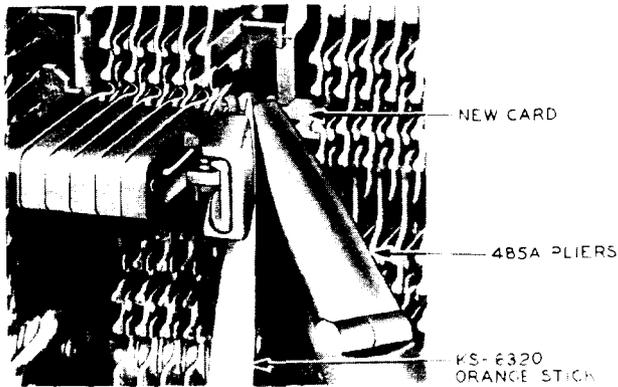
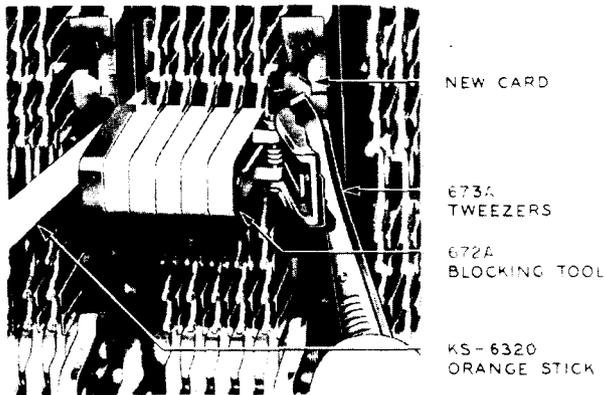

Fig. 11—Inserting New Card in Spring Combination
Fig. 12—Final Positioning Operations of New Card
(3) Insert the card armature end first in the space between the unit on which the card is to be replaced, and the vertical unit at the right until the long tang end of the card is adjacent to the card opening in the vertical unit. Then while holding the card in this position, rotate the card in a horizontal direction so the long tang end of the card enters the card opening, as shown in Fig. 11. Use the orange stick to assist in this operation and to free the card if it wedges or binds on the springs. Gently slide the card to the left until the card lines up with those immediately above and below it. When the card is in this position, grasp the armature end of the card with the tweezers and rotate it 90 degrees so the pointed side of the card at the armature end will point toward the corresponding part of the card associated with the crosspoint directly above or below. During this turning operation, use the orange stick at the left side, as shown in Fig. 12, to guide the card both front and rear and right and left into the proper grooves.
(4) After the card has been positioned vertically, move the card lightly at each side noting that it moves freely.